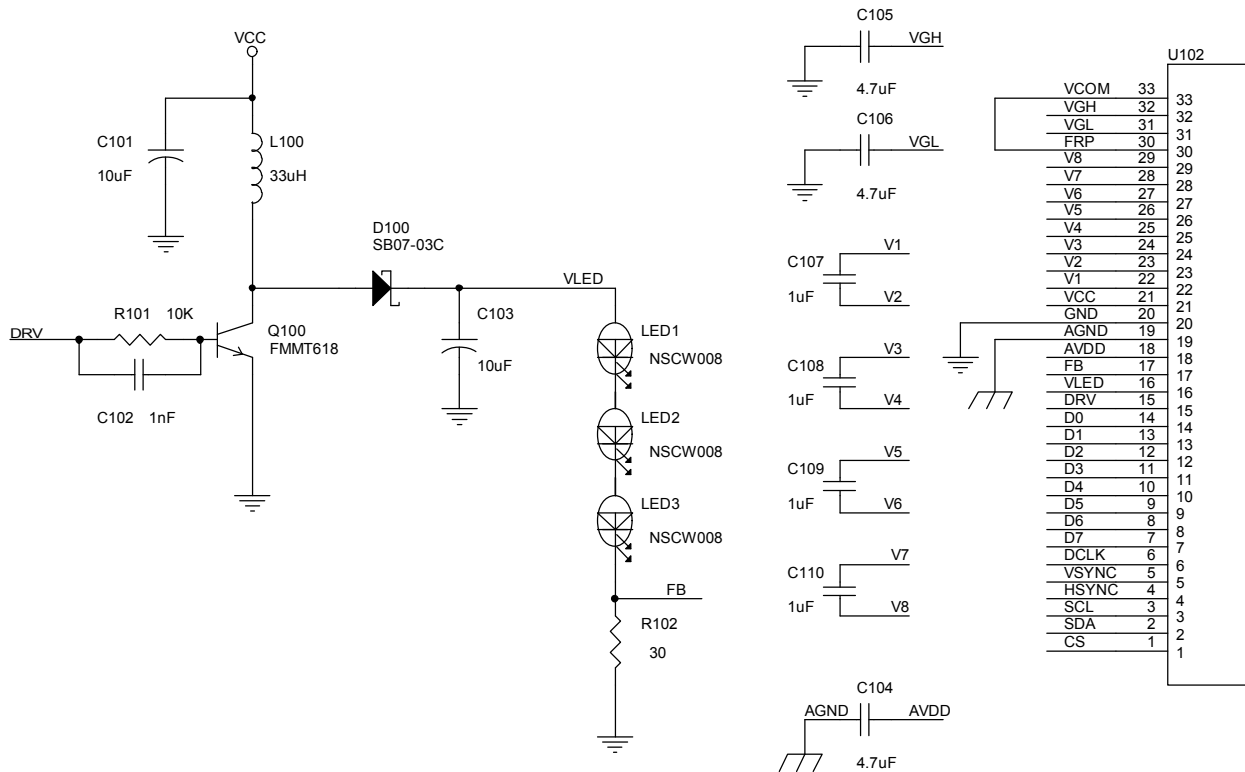

Fig.11 Internal LED boost Circuit
The integrated driver IC provides build-in LED booster controller, DC-DC charge pump, and Vcom driver. See Fig. 11 for the application circuit.
According to Fig. 11, the L100, Q100, D100, and C103 together form the LED boost converter. The converter with 0.6V feedback (FB) and R102 provide a constant 20mA current for LED backlight unit. The boost converter switching signal DRV is generated based on divided frequency of DCLK. Therefore the DCLK input is required for LED driver operation, and the absent of DCLK signal during normal operation will set the driver IC into standby mode. A low ESR capacitor for C103 is recommended in order to reduce voltage ripple of